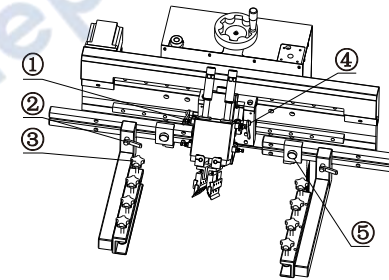
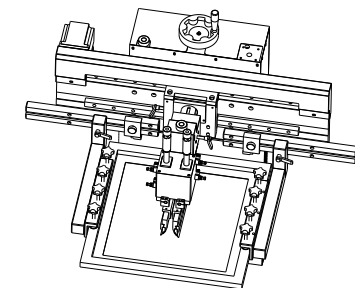

Fig. 4
Fig. 5
- (1) Release the head fixing screw ①, turn the head up 45 degrees Fig. 4, by the tongue stuck.
- (2) Loosen the steel mesh bracket lock handle ② and move the left and right bracket to the symmetrical distance on both sides to fit stencil length.
- (3) Release the steel mesh fixed handle screw ③ in turn.
- (4) Push the pre-prepared steel mesh into the U-shaped card slot and secure the handle screw to press the steel mesh as shown in Fig. 5.
- (5) Loosen the tool holder retention screw ④ move the tool holder at the steel mesh printing area and lock it.
- (6) Lock the steel mesh bracket and the head to ensure that the steel mesh bracket does not shake to this steel net installation.